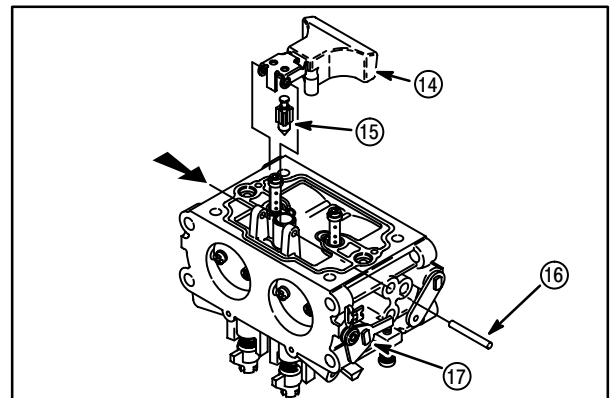

Fig. 64
7. Drive out float hinge pin (16) from side **OPPOSITE** throttle lever (17). Remove float (14) and fuel inlet needle (15) assembly, **Fig. 64**.